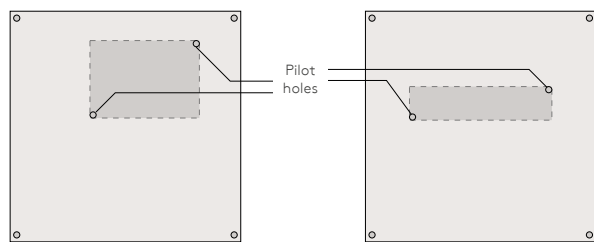

Figure 9. Laying out internal cutouts
- Lay out the cutout on the panel (see Figure 9).